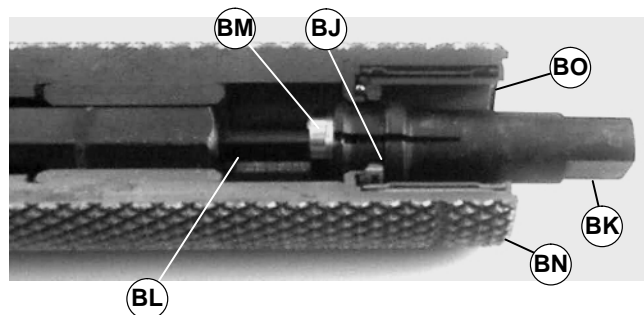

Figure 47
- Insert bearing removal tool (part # 25-05☆) (BK of Figure 47) into the pulley (BN) until shoulder (BJ) seats against bottom of bearing (BO).